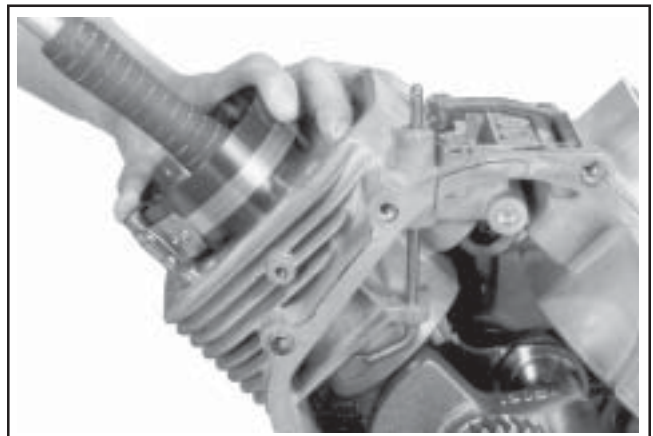

Figure 11-9. Installing Piston Assembly Using Ring Compressor Tool.
4. Make sure the “Fly” stamping on piston is facing towards the flywheel side of the engine. Use a hammer with a rubber grip and gently tap the piston into the cylinder as shown in Figure 11-9. Be careful that the oil ring rails do not spring free between the bottom of the ring compressor and top of the cylinder.